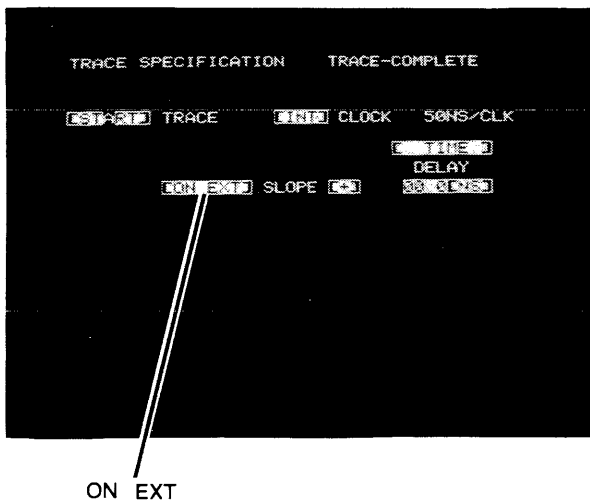

Figure 4-11. External Trigger Test Trace Specification Menu
- v. Move cursor to each field in menu. Set up menu according to figure 4-11.